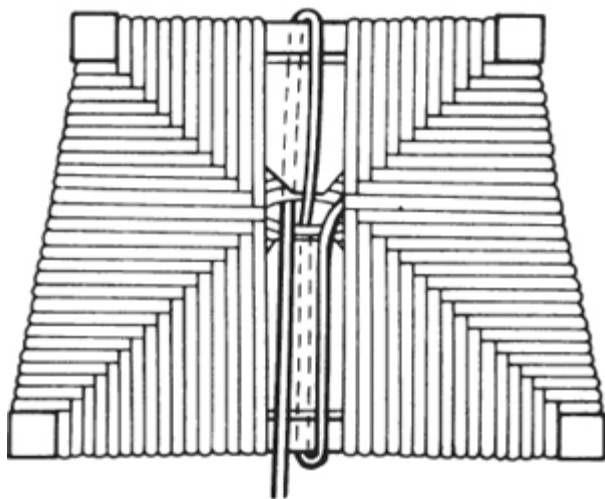

fig. 19
24. When the weaving is completed on the side rails, there will still be some space to fill in on the front and back rails. You must now bridge the gap. To do this, bring the rush up through the center of the seat and over and around the front rail. Bring it up through the center again and over and around the back rail. Continue this figure eight pattern until the center is filled in. See Figure 19. If you are using natural rush, knot the final end to the strand opposite on the underside. Tuck it away with your rush needle. If you are using fibre rush, tack the final end to the back rail underneath the seat. Cut off the excess fibre.
24. When the weaving is completed on the side rails, there will still be some space to fill in on the front and back rails. You must now bridge the gap. To do this, bring the rush up through the center of the seat and over and around the front rail. Bring it up through the center again and over and around the back rail. Continue this figure eight pattern until the center is filled in. See Figure 19. If you are using natural rush, knot the final end to the strand opposite it on the underside. Tuck it away with your rush needle. If you are using fibre rush, tack the final end to the back rail underneath the seat. Cut off the excess fibre.